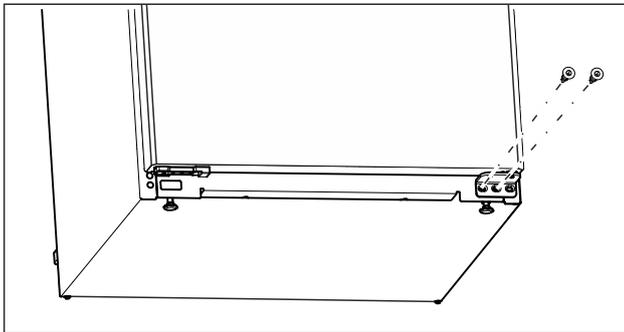

Fig. 13
- ▶ Unscrew the middle screw on the lower swap bearing block with a Torx 20 screwdriver. (see Fig. 13)
- ▶ Unscrew the inner screw on the lower swap bearing block with a Torx 20 screwdriver. (see Fig. 13)